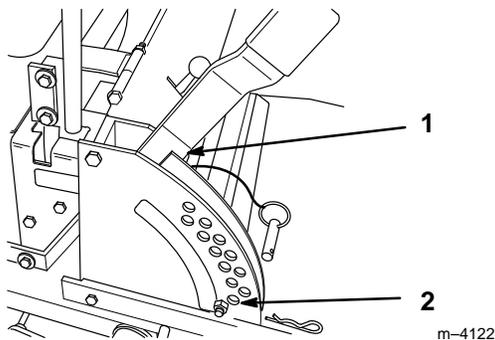
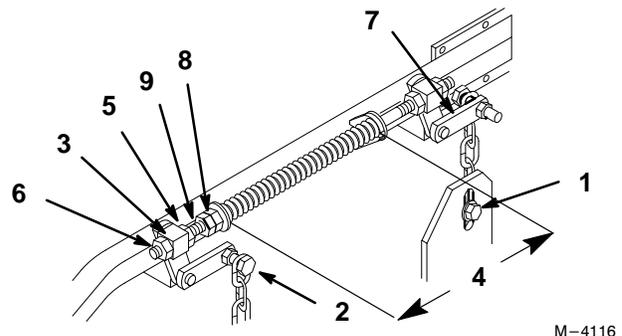

Figure 22
Figure 23
2. Check tire pressure of all four (4) tires. If needed, adjust to 13 psi (90 kPa)
4. Raise the deck to the transport position (Fig. 22). Take force off of the two large deck lift springs by loosening jam nut and front spring nut, in front of each spring, as far as possible (Fig. 23).
5. Place two 1-1/4" (35 mm) thick blocks under rear left and right lower edge of mower. Place one 1-3/8" (44 mm) block under front center lower edge of mower. Not under anti-scalp roller brackets. Lower mower to the 1-1/2" (38 mm) height-of-cut position (Fig. 22).
6. Loosen bottom chain bolt in slot at rear of deck. Repeat for opposite side. (Fig. 23).
7. Loosen front and rear locking nut on either side of front swivel. Loosen until front chains are loose and deck is supported by blocks. Repeat for opposite side. (Fig. 23).
8. When hardware is loosened, remaining tension in the large support springs will tend to rotate the deck lift handle up, out of the 1-1/2" position. Press down on the rear deck support arm to firmly return the deck lift handle to the 1-1/2" position (Fig. 23).
9. While continuing to press down on rear deck support arm, take the slack out of the rear chain and tighten hardware at the bottom (Fig. 23). Downward pressure may now be released. Repeat for opposite side.
14. Raise deck lift lever to the transport position, (Fig. 22).
15. Adjust compression springs by turning the front spring nuts so the distance between the two large washers is 10-1/4" (260 mm). Then tighten jam nut (Fig. 23).